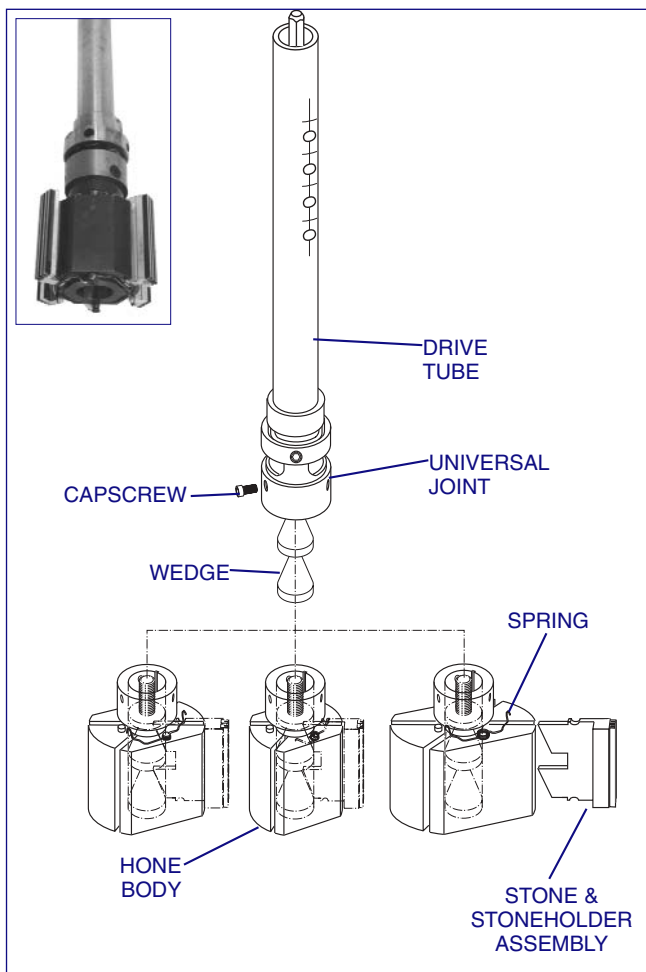

FIGURE 3-18, DH Hone Heads
Sunnen DiamondHone Multi-Stone Tools comes complete with three hone bodies for bore sizes from 70 to 140 mm (2.75 - 5.55 in.). The DH-Tools use Sunnen Diamond Stone Sets and PHT Brush Sets. The DH Hone Bodies can be quickly changed by removing the three (3) Capscrews securing the Hone Body to the Universal Joint on the Drive Tube (*see Figure 3-18*).